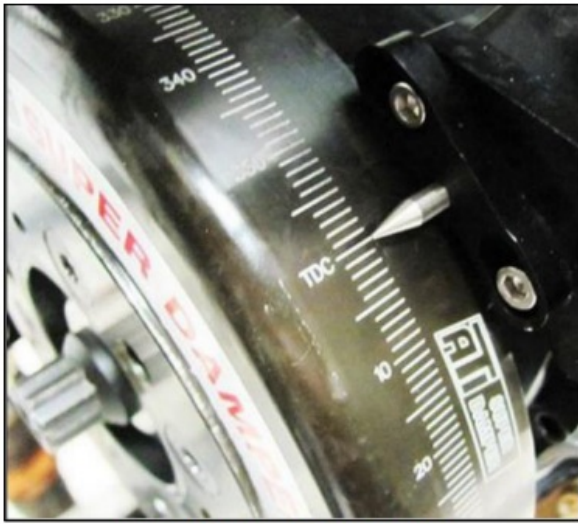

Figure 3: Rotating Engine to TDC #1
1. Manually rotate the engine to TDC (Top Dead Center) of the #1 cylinder as shown in Figure 3 below.
1. Manually rotate the engine to TDC (Top Dead Center) of the #1 cylinder as shown in Figure 3 above.